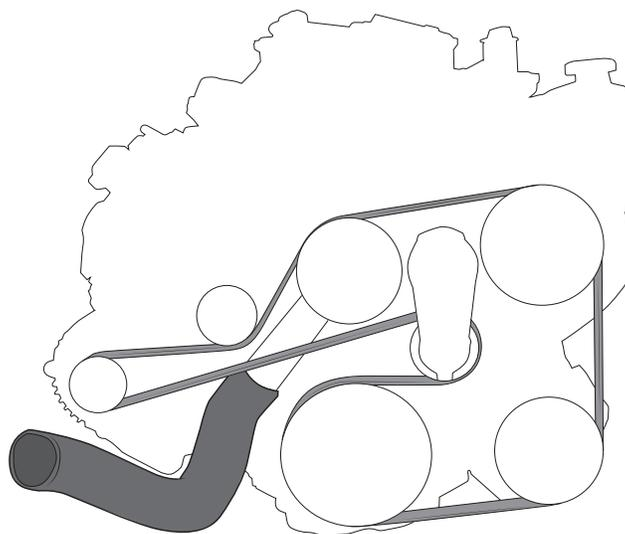

Figure 23
23. Install lower radiator hose using the supplied AEV spring clamps (fig 23). DO NOT use over-the-counter hose clamps.
24. Install the serpentine belt (fig 23).